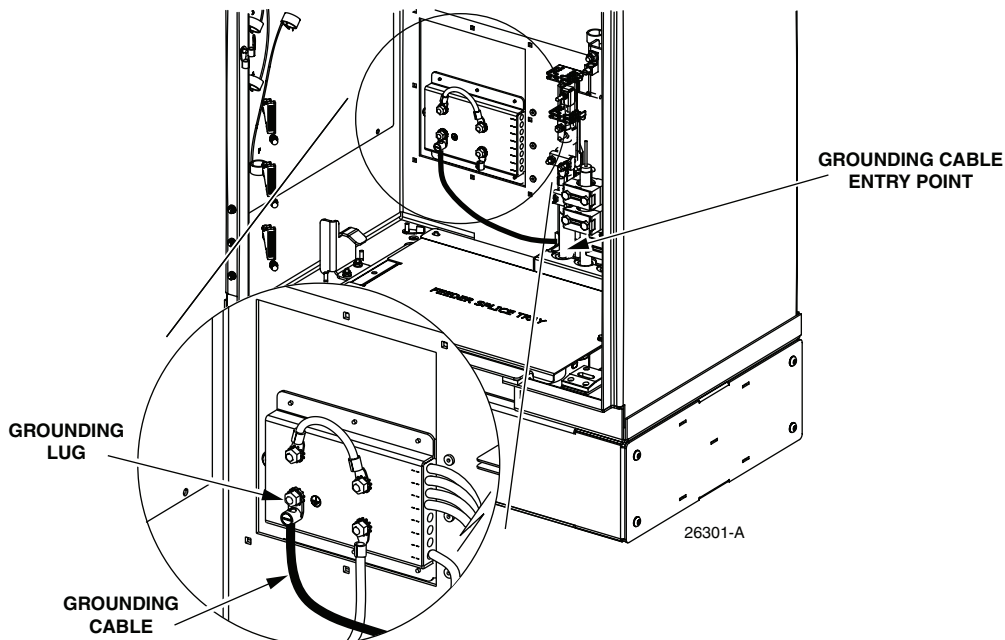

Figure 9. Grounding Wire Connection To Cabinet
10.8.2 Working from the bottom side of the cabinet, insert the grounding wire through the flexible membrane at the point indicated in Figure 9.